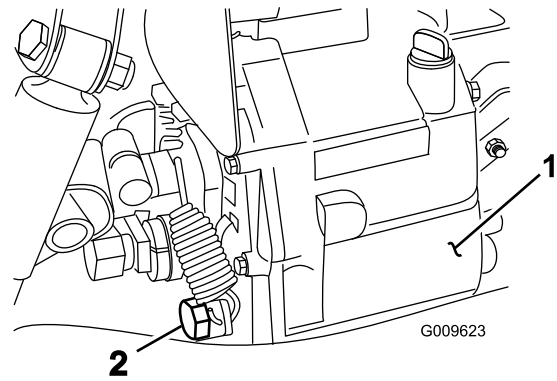

Figure 70
2. Remove the drain plug from the side of the reservoir, and let the hydraulic fluid flow into a drain pan (Figure 70).